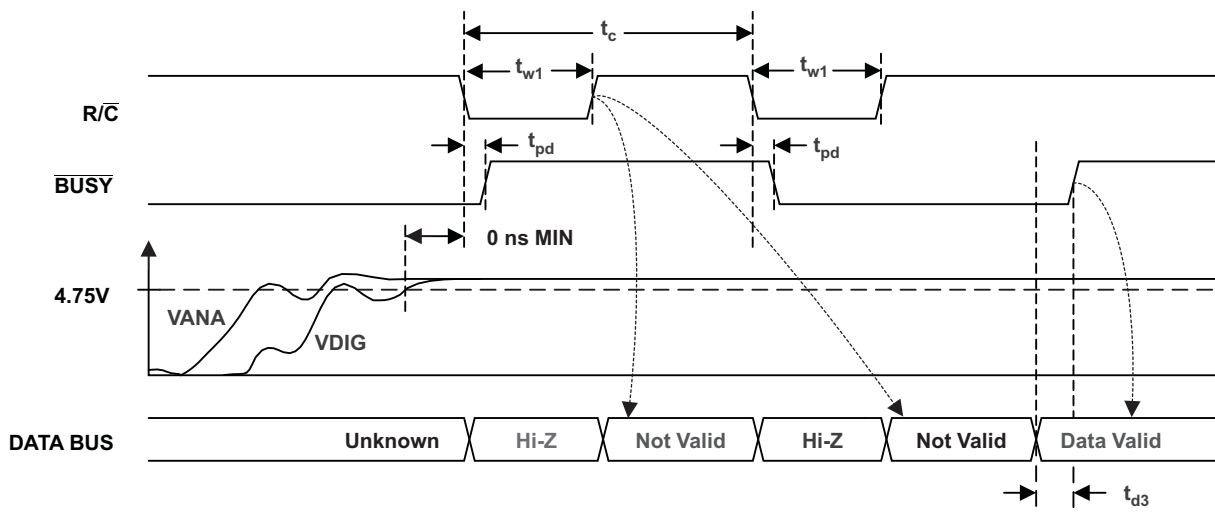

Figure 22. ADC Reset
The combination of \overline{CS} (pin 25) and $\overline{R/\overline{C}}$ (pin 24) low for a minimum of 40 ns immediately puts the sample/hold of the ADS8504 in the hold state and starts conversion n . \overline{BUSY} (pin 26) goes low and stays low until conversion n is completed and the internal output register has been updated. All new convert commands during \overline{BUSY} low will abort the conversion in progress and reset the ADC (see Figure 22).
(2) See Figure 22 for details on ADC reset.